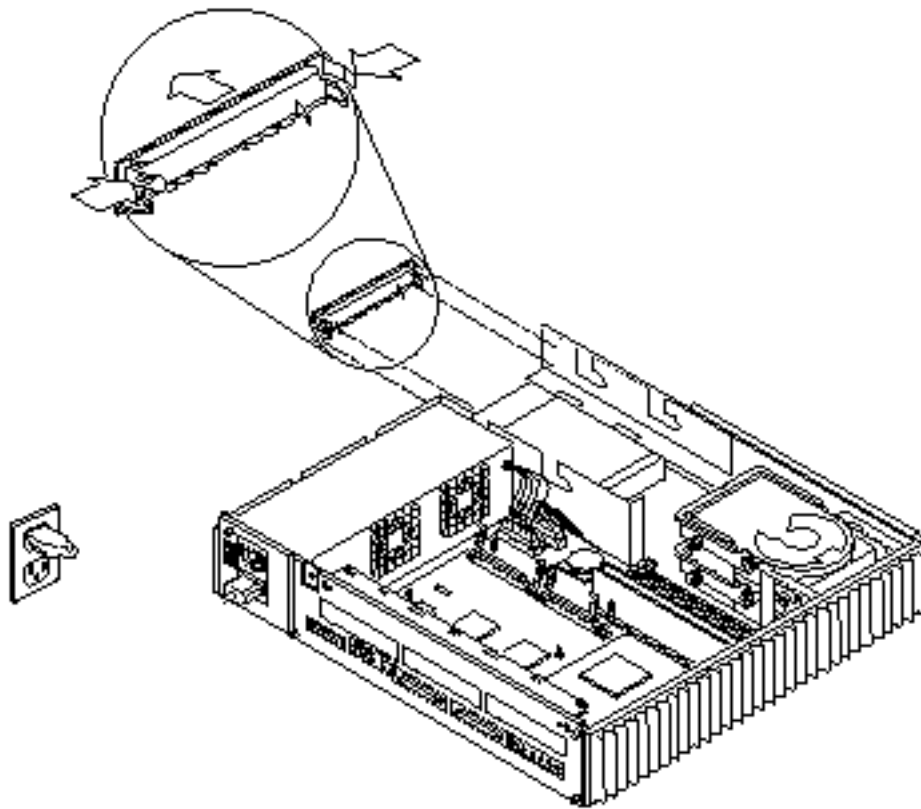

Figure 9-8 Removing the CD-ROM Filler Panel
- 3. Remove the CD-ROM drive (if installed). If the CD-ROM drive is not installed, remove the CD-ROM filler panel as shown in Figure 9-8.**
5. **If there is a CD-ROM drive, reinstall it. Otherwise, replace the CD-ROM drive filler panel shown in Figure 9-8.**